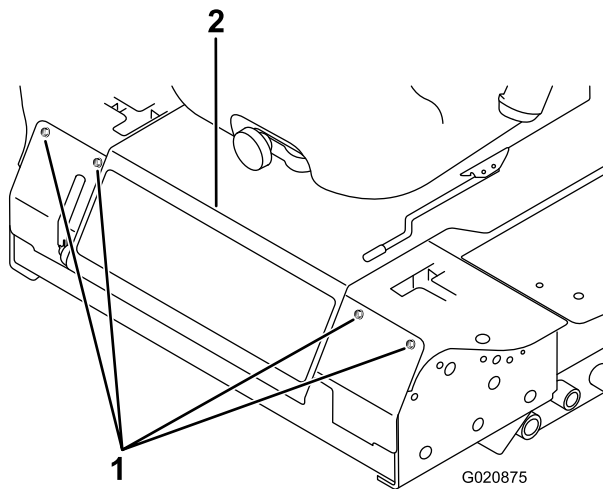

Figure 86
3. Remove the bolts securing the front panel and remove the panel (Figure 86).